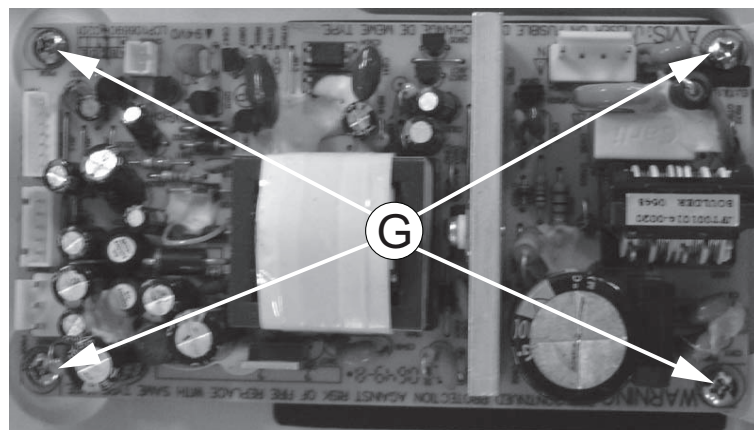

Figure 10
- 1) Loosen 4 screws "G" on the top of Power Board as shown in figure 10.